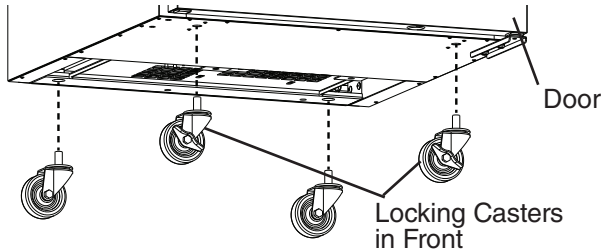

Fig. 1
- 3) Attach the casters to the bottom of the appliance. Locking casters should be attached to the front of the appliance. See Fig. 1.